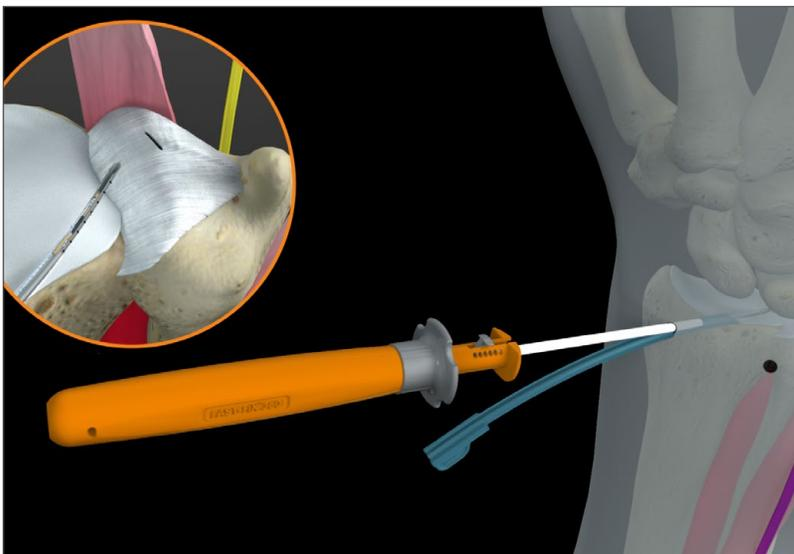

Figure 4
7. Once inside the joint, grasp the blue tab on the split cannula and pull to separate it from the delivery device, as shown in **Figure 4**.